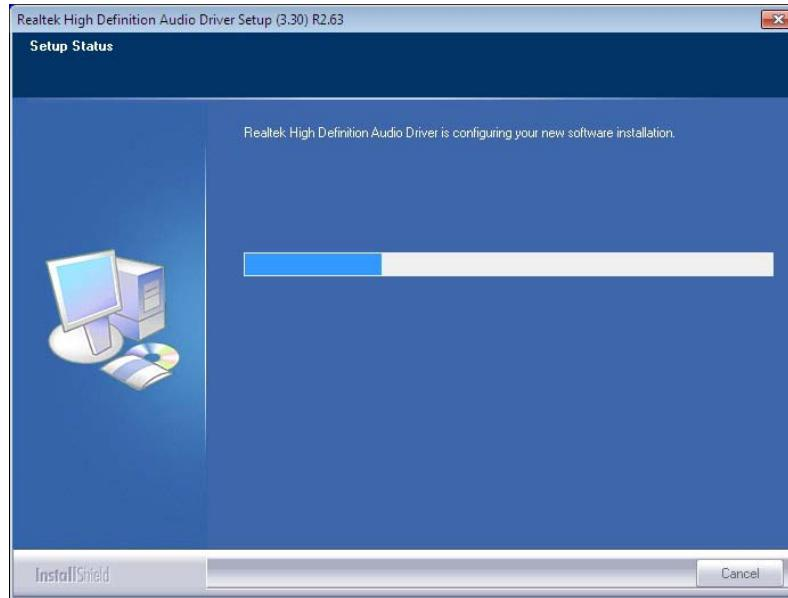

Figure 6-19: Audio Driver Installation
Step 9: The installation progress can be monitored in the progress bar shown in **Figure 6-19.**